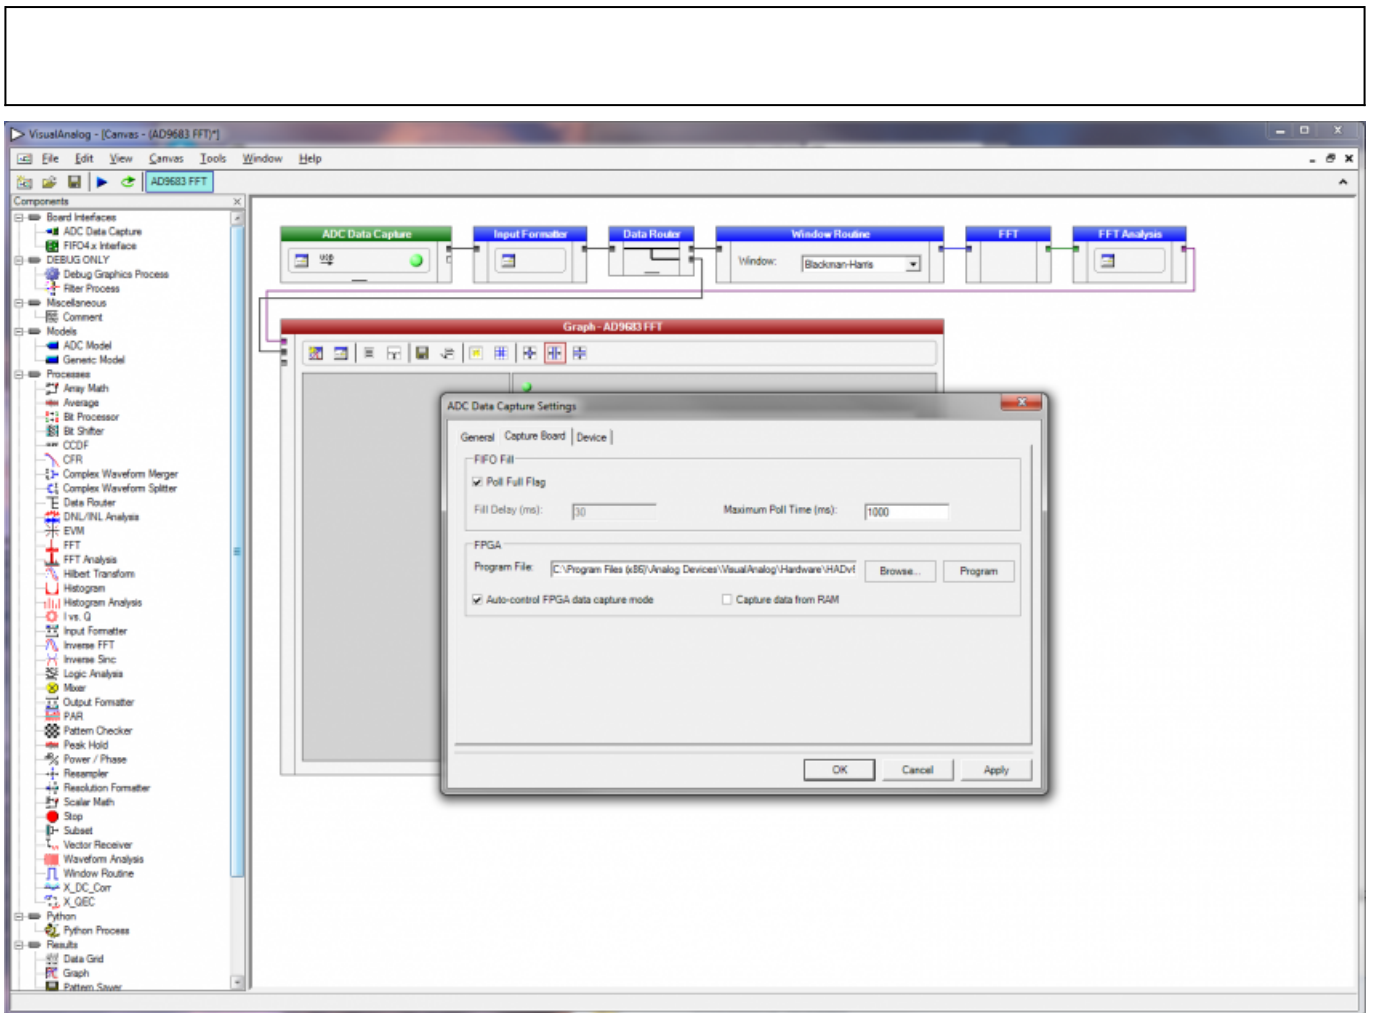

Figure 5. VisualAnalog ADC Data Capture Settings
- Click the **Settings** button on the **ADC Data Capture** block. In the pop-up window select the **Capture Board** tab. Select the checkbox **Poll Full Flag**. This must be checked in order to get data capture from the AD9683 and AD6677 (see Figure 5).